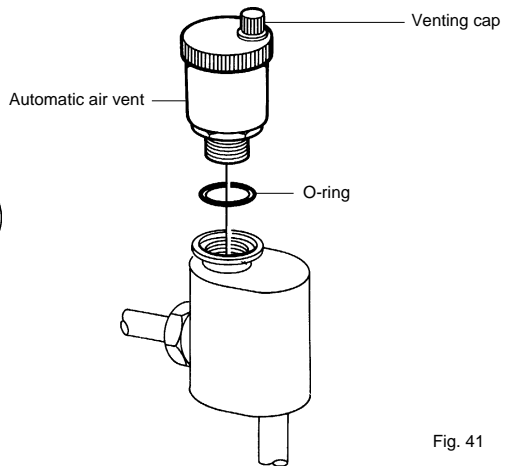

Fig. 41
- Re-assemble in reverse order ensuring the «O» ring is fitted (fig. 41) and that the venting cap is loose.